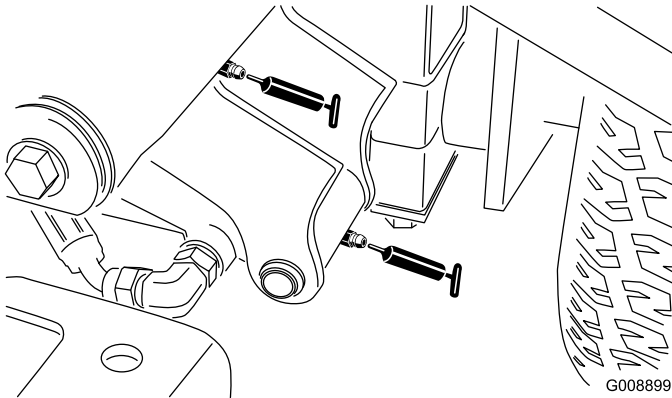

Figure 41
- Left front lift arm pivot and lift cylinder (2) (Figure 41)